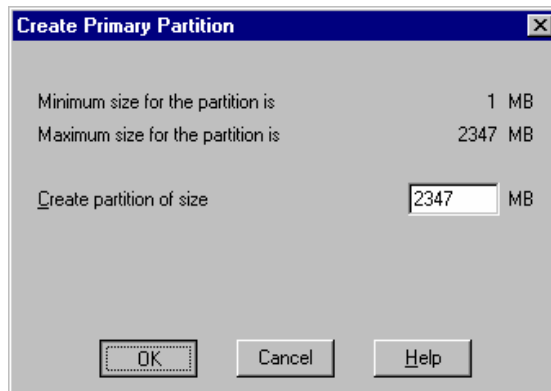
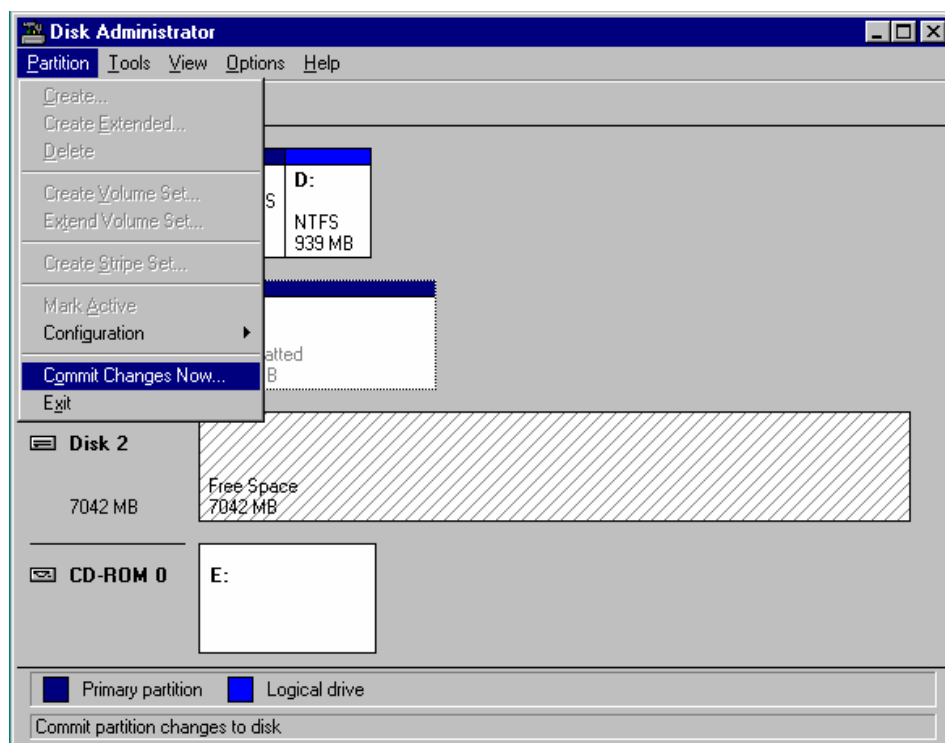

Figure 3.4 Entering the Partition Size
Figure 3.5 Saving the Changes to Disk Configuration
2. On the Create Primary Partition panel, enter the desired partition size (see Figure 3.4), and select **OK**. If the specified partition size is greater than 1024 MB, the Disk Administrator will request confirmation to create the partition.
3. The Disk Administrator panel now shows the new unformatted partition for the selected device. Make sure that the correct partition size is displayed. If the partition size is not correct, repeat steps (1) through (4) to re-enter the correct partition size.
4. Select the **Partition** menu, and select **Commit Changes Now...** (see Figure 3.5). When the confirmation panel appears, select **Yes** to save the changes to your disk configuration.